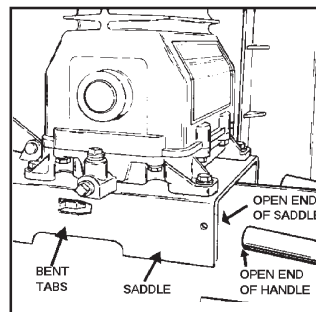
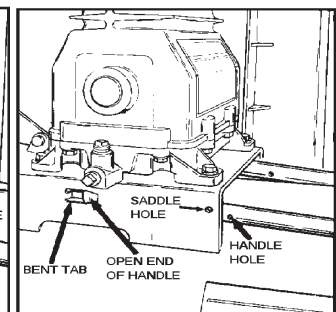

FIG. 1
FIG. 2
1. Insert the open end of the handle under the saddle (Fig. 1). Before attaching handle, you may have to pull the open ends of the handle apart so they fit tightly against the side of the saddle. Looking in from the open end of the saddle, position the handle toward the two bent tabs, on the inside walls of the saddle. Slowly push the open ends of the handle onto both tabs at the same time (Fig. 2). Continue pushing the handle into the saddle until the holes on the side of the saddle and handle are in line.